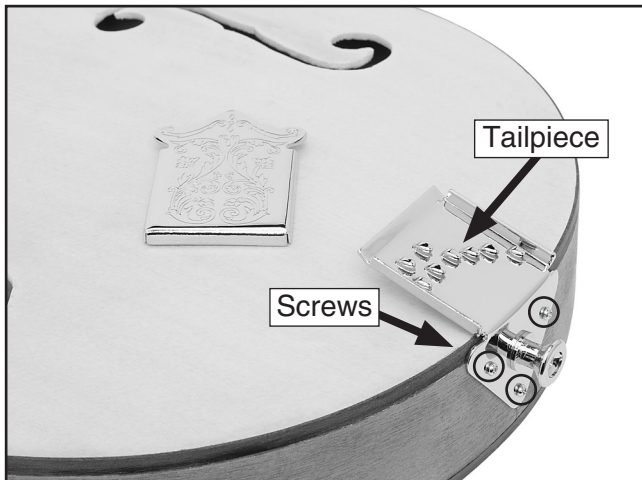

Figure 34. Tailpiece components.
2. Secure the tailpiece to the mandolin with three #1 x $\frac{3}{8}$ " chrome screws as shown in **Figure 34**.